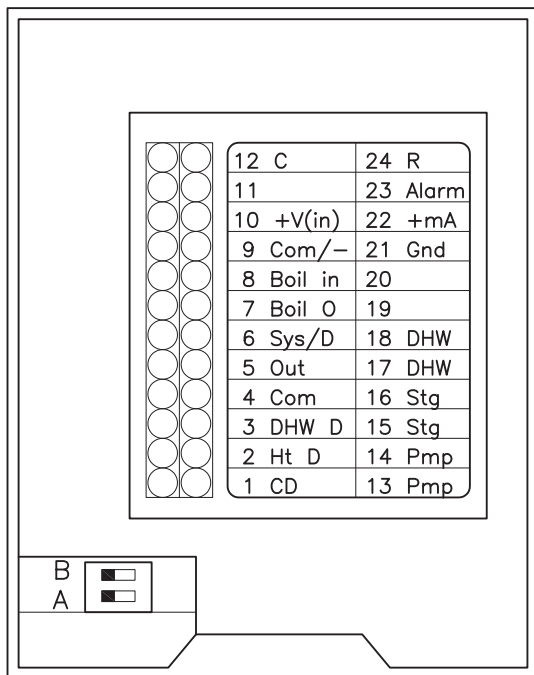

Fig. 23: DIP Switch Location
**NOTE:** BOILER OUT MAX is set using DIP Switch "A": OFF = 235°F, ON = 200°F (see Fig. 23).
For field installation, this controller is shipped inside a water-resistant enclosure (see Fig. 19). This kit includes an alarm relay and two terminal blocks (labeled P1 and P2) with built-in decals describing the various connections. See Fig. 23 for proper wiring.